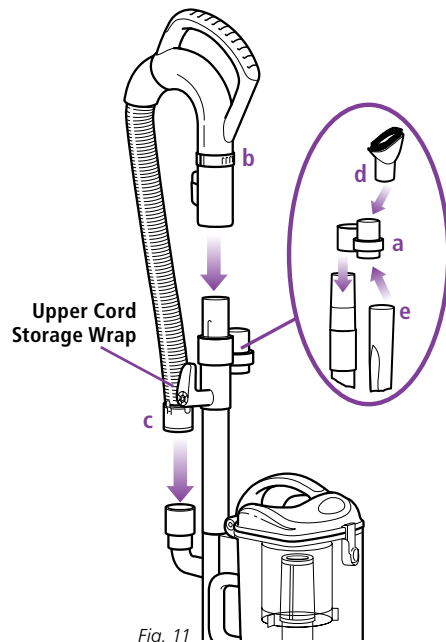

Fig. 11
- 4 Slide the accessory holder (a) positioned opposite the upper cord wrap, over the extension wand. Align the tab with the groove and push down. (Fig. 11)
- 5 Push the handle (b) onto the top of the extension wand until you hear it click into place. (Fig. 11)
- 6 Insert the end of the stretch hose (c) into the connector on the back of the *Lift-Away*® canister. (Fig. 11)
- 7 Store the dusting brush (d) and the crevice tool (e) on the mounts of the accessory holder. (Fig. 11)
- 5 Due to the huge suction power of this vacuum, it may become necessary at times to adjust the suction release (c) on the handle. (Fig. 11) If the vacuum seems difficult to push or pull or if it is lifting up area rugs, adjust the suction release by rotating the collar 90° counterclockwise to open the valve. Rotate the collar clockwise to close the valve when you need high suction and for vacuuming floors.